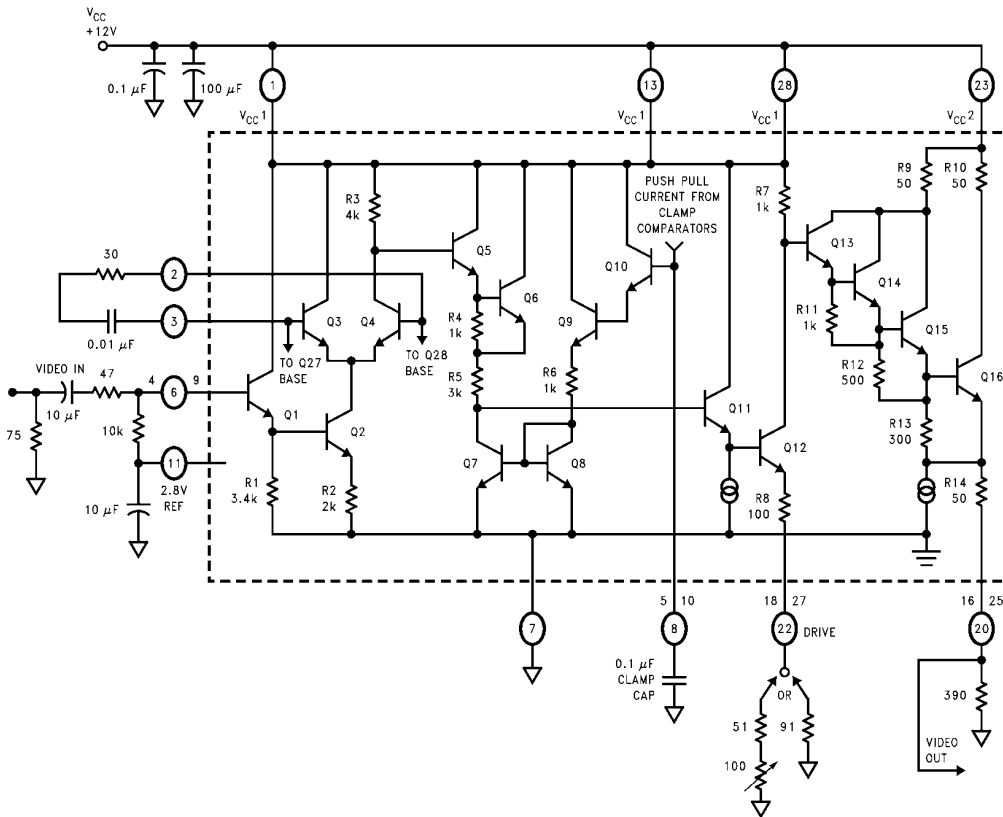

FIGURE 6. Simplified Schematic of LM1203B Video Amplifier Section with Recommended External Components
Figure 6 is a simplified schematic of one of the three video amplifiers along with the recommended external components. The IC pin numbers are circled and all external components are shown outside the dashed line. The video input is applied to pin 6 via a  $10\ \mu\text{F}$  coupling capacitor and a  $47\ \Omega$  resistor. The resistor is added to limit the current through the input pin should the applied voltage rise above  $V_{CC}$  or drop below ground. The performance of the LM1203B is not degraded by the  $47\ \Omega$  resistor. However if EMI is a concern, this resistor can be increased to well over  $100\ \Omega$  where the rise and fall times will become longer. DC bias for the video input is through the  $10\text{k}$  resistor connected to the  $2.8\text{V}$  reference at pin 11. The low frequency roll-off of the amplifier is set by the  $10\text{k}$  resistor and the  $10\ \mu\text{F}$  capacitor. Transistor Q1 buffers the video signal to the base of Q2. Q2's collector current is then directed to the  $V_{CC1}$  supply directly or through the  $4\text{k}$  load resistor depending upon the differential DC voltage at the bases of Q3 and Q4. This differential DC voltage is generated by the contrast control circuit which is described in the following sections. A  $0.01\ \mu\text{F}$  decoupling capacitor in series with a  $30\ \Omega$  resistor is required between pins 2 and 3 to ensure high frequency isolation between the three video amplifiers which share these common connec-
*Figure 7* shows the input reference and contrast control circuitry. A temperature compensated 2.8V reference voltage is made available at pin 11. The external DC biasing resistors shown should not be larger than 10k because minor differences in input bias currents of the individual video amplifiers may cause offsets in gain. *Figure 7* also shows how the contrast control circuit is configured. R21, R22, Q22, Q23, and Q24 establish a low impedance zero TC half supply voltage reference at the base of Q25. The differential amplifier formed by Q27, Q28 and feedback transistor Q29 along with R28 and R29 establish a differential base voltage for Q3 and Q4 in *Figure 6*. When externally adding or subtracting current from the collector of Q28, a new differential voltage is generated that reflects the change in the ratio of currents in Q27 and Q28. To allow voltage control of the current through Q28, resistor R27 is added between the collector Q28 and pin 12. A capacitor should be connected from pin 12 to ground to prevent noise from the contrast control potentiometer from entering the IC.